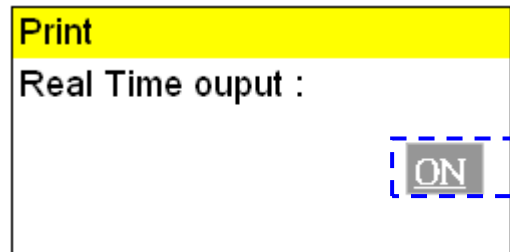

Figure 117
- B. Press  button to the editing mode as shown in Figure 117.